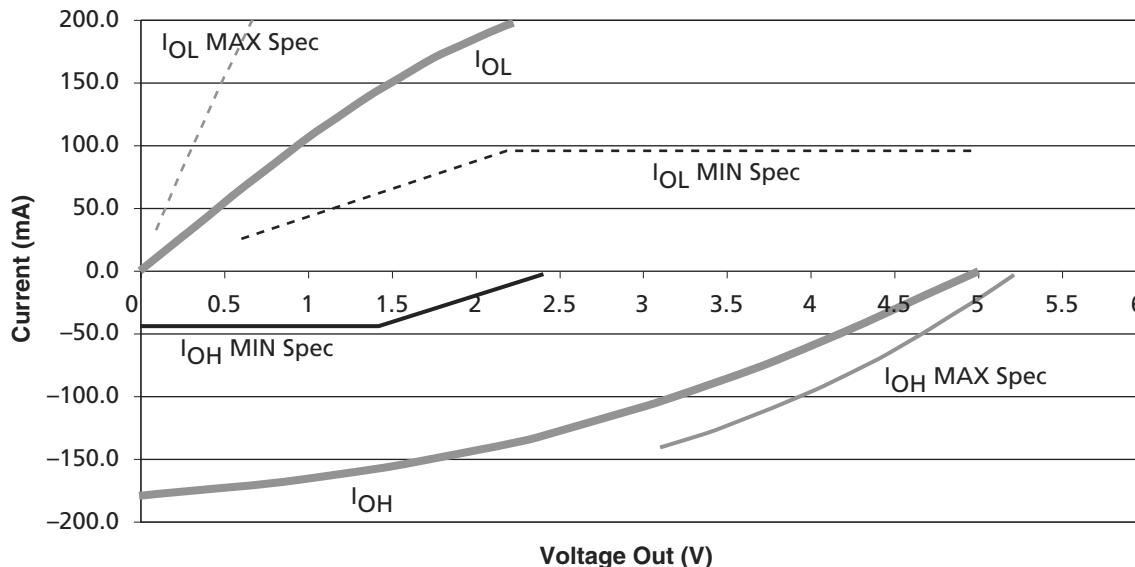

Figure 2-1 • 5 V PCI V/I Curve for SX-A Family
1. Refer to the *VII* curves in Figure 2-1 on page 2-5. Switching current characteristics for REQ# and GNT# are permitted to be one half of that specified here; i.e., half size output drivers may be used on these signals. This specification does not apply to CLK and RST#, which are system outputs. "Switching Current High" specifications are not relevant to SERR#, INTA#, INTB#, INTC#, and INTD#, which are open drain outputs.
3. Maximum current requirements must be met as drivers pull beyond the last step voltage. Equations defining these maximums (A and B) are provided with the respective diagrams in Figure 2-1 on page 2-5. The equation defined maximum should be met by design. In order to facilitate component testing, a maximum current test point is defined for each side of the output driver.
Figure 2-1 shows the 5 V PCI V/I curve and the minimum and maximum PCI drive characteristics of the SX-A family.